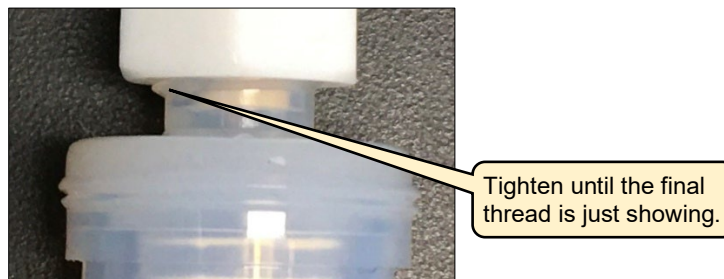

Figure 47: Tightening the Filter Fittings
1. Release the captive screws (Figure 47) and slide the filter assembly out of the analyzer filter bay. There may be some resistance as the filter is removed. This is due to the frictional resistance of the male quick-disconnect O-rings within the female receptacle.